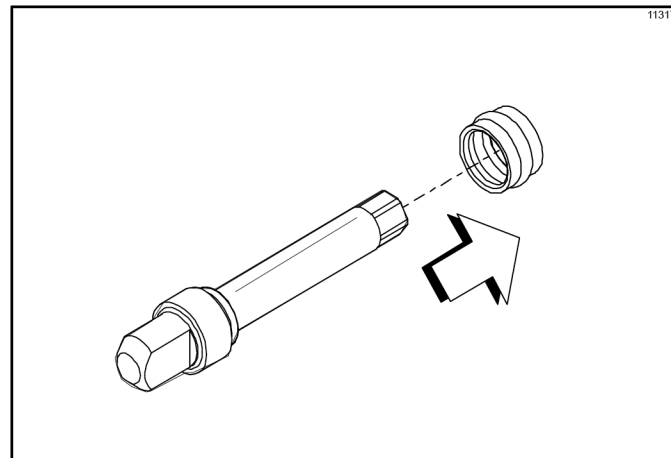

Figure 6-59
2. Remove the driveshaft seal from the driveshaft. (See Figure 6-59.)